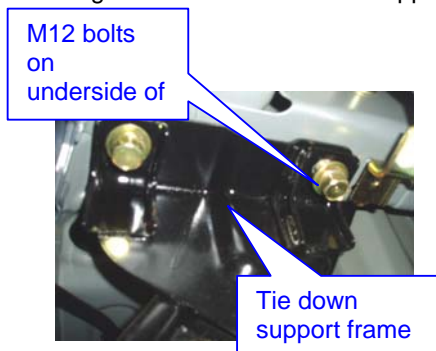

FIG 1
- a. 4 x M12 bolts on underside of chassis rails 2 each side see fig 1.
- c. Fit vertical bolts loosely first see fig1.